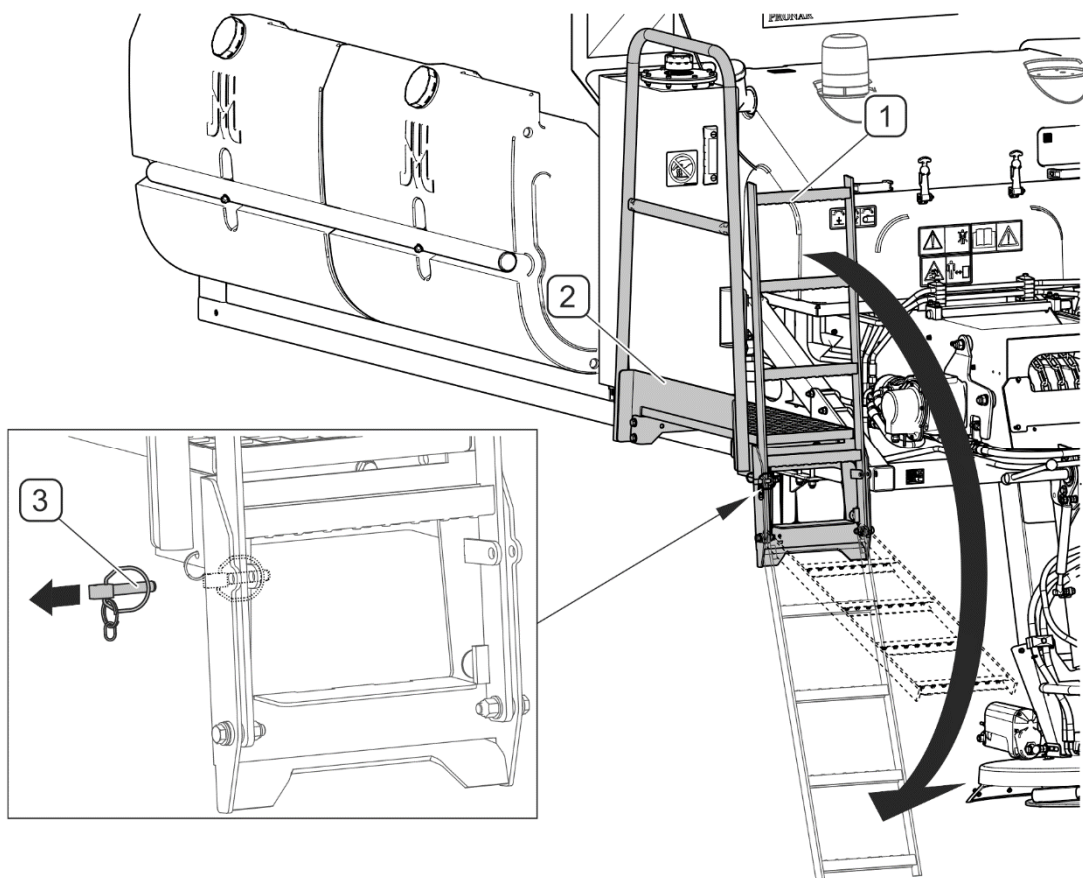

FIGURE 4.19 Ladder and platform
(1) - ladder; (2) - platform; (3) - securing cotter pin
The platform (FIGURE 4.19) fitted with ladder (1) facilitates raising and lowering of tarpaulin cover.
To lower the ladder (FIGURE 4.19):